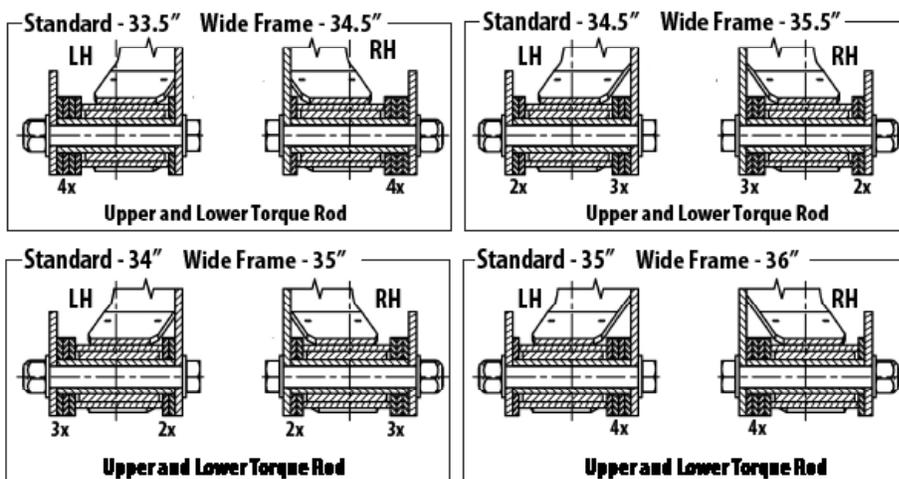

Figure 1. The number of wear washers on each side of the axle-end torque rod assembly will vary according to suspension frame width.
- Count the number of wear washers on each side of the bushing on the Axle-End Torque Rod Assembly. The wear washer number varies according to the frame width set by the hangers (Figure 1).
- Axle-End Torque Rod - Bushing Inner Sleeve - 4.8" Press inner sleeve into the installed bushing. Position the sleeve so that one end extends further past the bushing than the other end (Figure 1). Assemble pivot connection with appropriate number of wear washers on either end of the inner sleeve. Inner sleeve must be flush with or slightly past the outside of the wear washers on both ends.